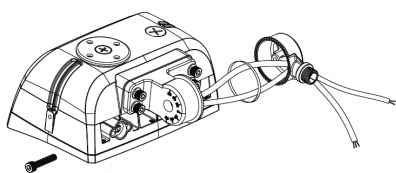

Fig 1.1
1. Align the rubber gasket to the Knuckle Mount. Use a cable jacket stripper to remove the jacket from the power and dimming cords. Pull the wires through the hole of the bottom part of the Knuckle Mount (Fig. 1.1). Do not pinch the wires.